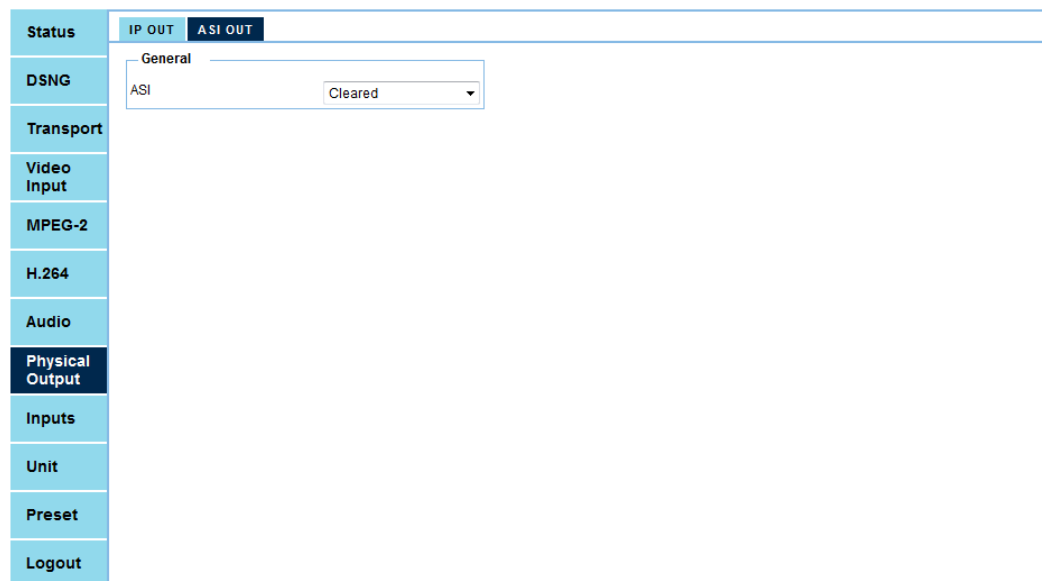

Figure 7–3: Web Management DVB-ASI Output Menu Display
- ❖ Select **Physical Output > ASI OUT** (see Figure 7–3).